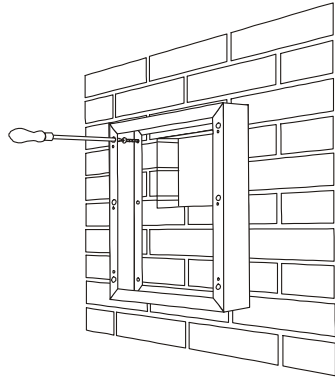

Figure 57 – Surface Mount Frame
2. Fix the surface mount frame in position as shown in **Figure 57**. Use mastic to seal the frame against the wall.